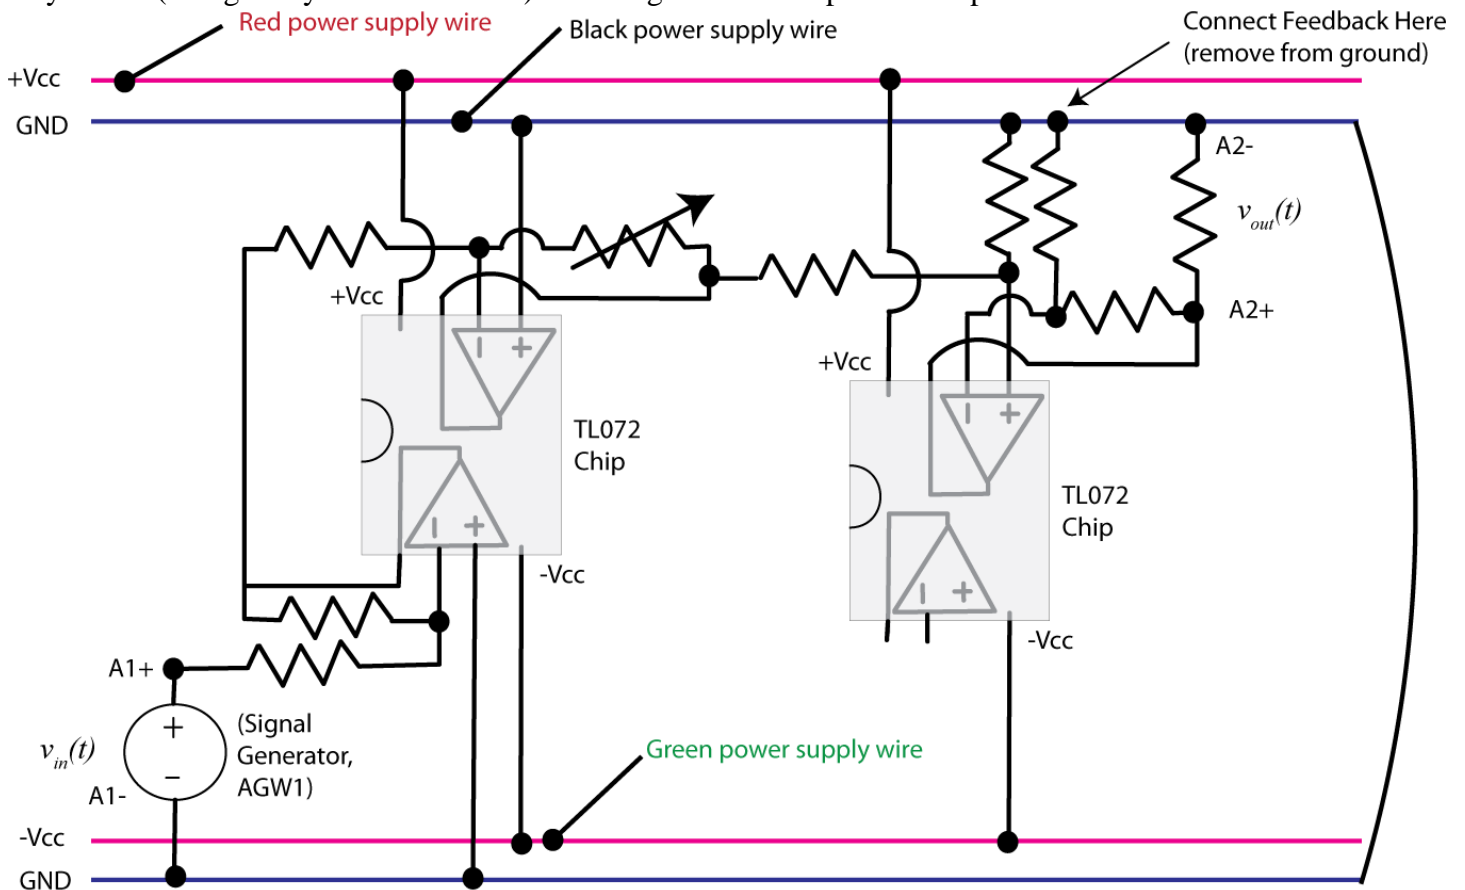

Figure 4. Prefilter and differential amplifier.
3) Now connect the first two parts of your circuit, the prefilter and the differential amplifier, as shown in Figure 4. The output of this combined circuit should match the input. If it is a little off, modify the variable resistor so they match (though they should be close). Do not go on if the input and output do not match.